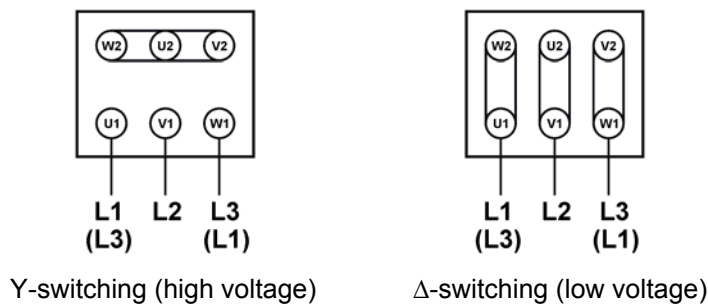
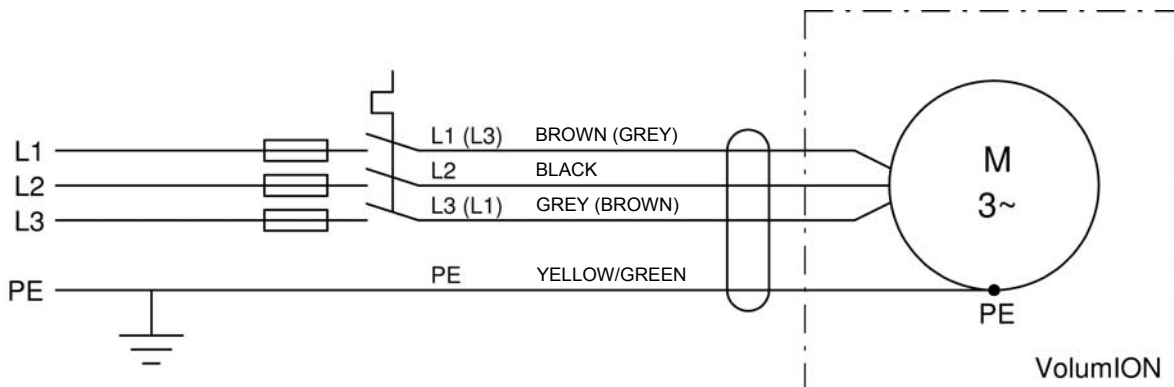

Figure 3: Mains cable connection of motor terminal box
Figure 4: VolumION wiring diagram
- The motor is supplied as standard to be connected in star at 400 V (3 x 230 V). For use with a lower voltage, the configuration of the motor terminal box must be changed from star to delta as shown in figure 3.
- If the direction of rotation is opposite to the arrow direction: reverse two phases (L1 en L3) in the mains connection (figure 4) or in the motor terminal box (figure 3).
The (blue) high voltage cable must only be shortened as shown in figure 4.